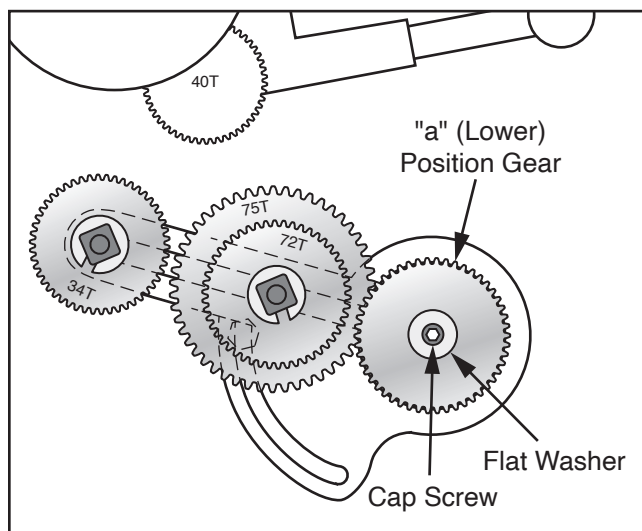

Figure 92. "a" (lower) position gear.
11. Check which gear is installed in "a" (lower) position (see **Figure 92**).
12. Remove cap screw and flat washer from lower shaft (see **Figure 92**), replace installed gear with 48T gear, making sure to align key and keyway, then secure with flat washer and cap screw.